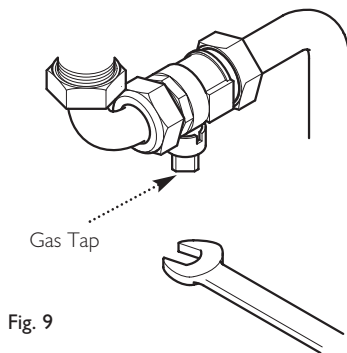

Fig. 9
Turn off the gas supply at the meter and call your gas supplier immediately. It is possible to isolate the boiler at the isolating valve (Fig. 9).
1. Using a suitable open ended spanner, turn the square nut on the gas tap through 90° (1/4 turn) to isolate the gas supply at the boiler (Fig. 9).